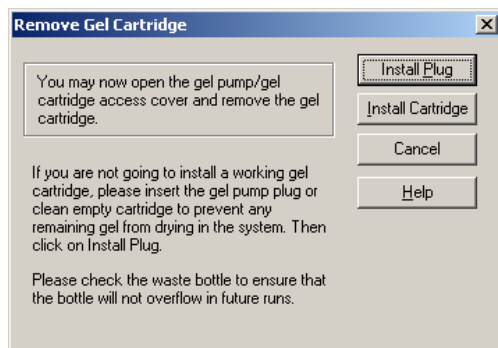

Figure 3.54 Remove Gel Cartridge Dialog Box
10. In the Remove Gel Cartridge dialog box (Figure 3.54):